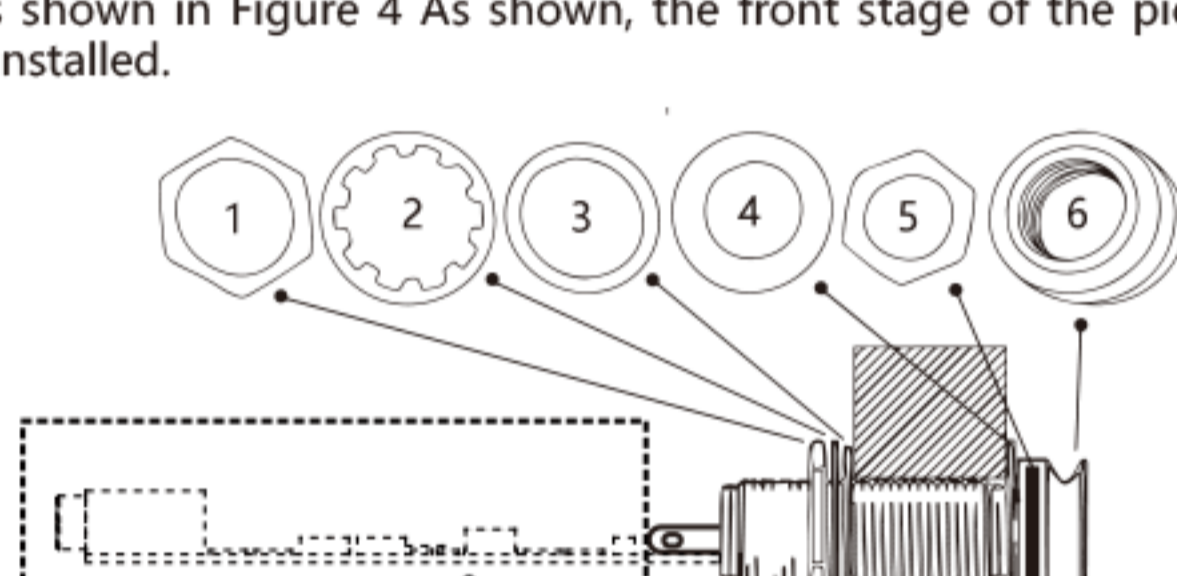

Fig.4
2. Fixed pickup front stage. Expose the head nail tube socket on the front of the pickup to the head. The exposed head should be higher than the guitar panel. The exposed part should not be too long or too short. The length should be equal to the length of the 6th nut in Figure 4. After that, first tighten the No. 4, 5 and 6 washers and nuts, then put your hand inside the guitar, tighten the 1, 2, 3 washers and nuts, the correct installation sequence of the washers and nuts should be as shown in Figure 4 As shown, the front stage of the pickup is now installed.